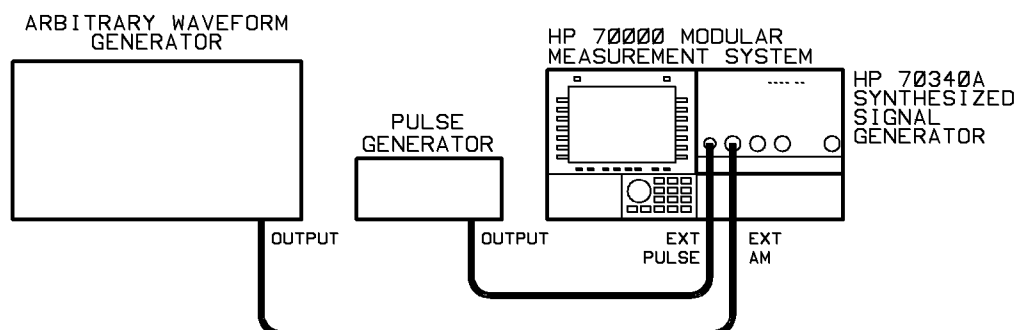
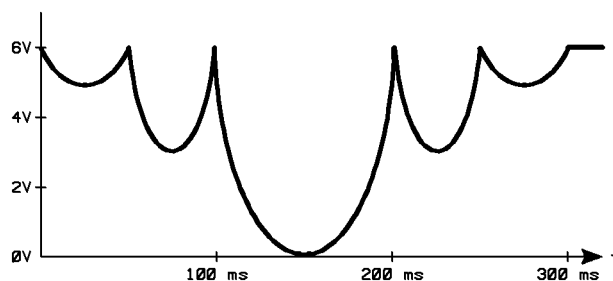
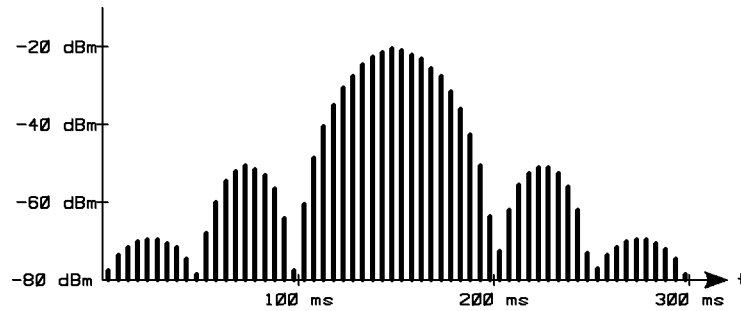

Figure 3-14. Antenna Scan Equipment Setup
Figure 3-15. Example Antenna Scan Input
Figure 3-16. Example Modulated Antenna Scan Pattern
1. Connect the equipment as shown in Figure 3-14:
The antenna scan waveform should vary from a positive voltage to zero volts. For every +1 volt at the **EXT AM** connector, the RF output is attenuated by 10 dB. For example, the waveform shown in Figure 3-15 applied to the **EXT AM** connector causes the antenna scan pattern shown in Figure 3-16 to appear at the signal generator **RF OUTPUT** connector (provided the output level has been set to -20 dBm).
To program the signal generator to generate the antenna scan pattern explained above, connect the equipment as shown in Figure 3-14. Set the scan generator to produce the scan waveform shown in Figure 3-15, and then run the following program.